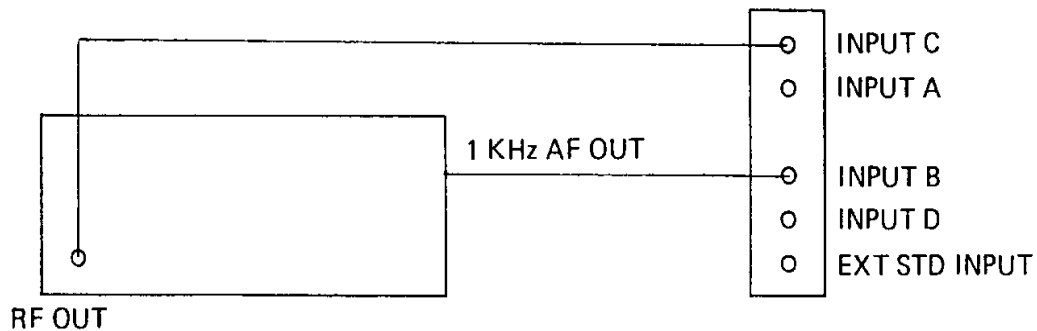

Figure 4-9, Ratio C / B Test Configuration
4.1.12.2 Connect the 2251A to the signal generator as shown in **Figure 4-9**. Set the signal generator to 50 MHz, 100 mV rms. Verify that the counters measurement result is 50000 ± 10 .